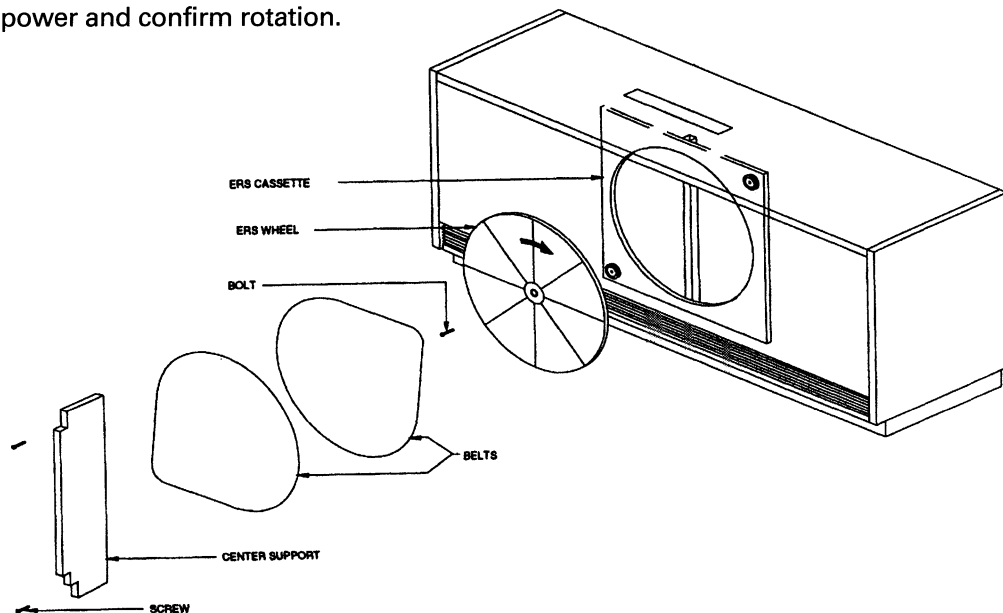

FIGURE 13 – ENERGY RECOVERY WHEEL MAINTENANCE
2. Remove the center support by loosening the fasteners located at the top and bottom of the unit. **See Figure 13 on this page.**